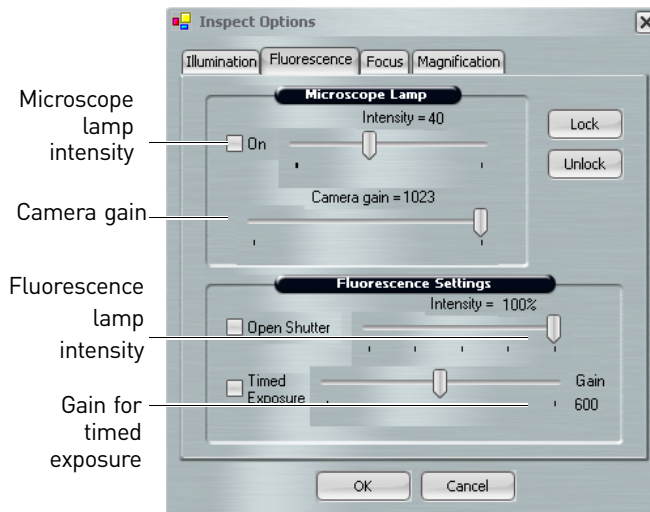

Figure 36 Fluorescence tab
3. Make sure that the Microscope Lamp Intensity is turned off (unchecked) (see Figure 36).
- a. Set the Fluorescence Lamp Intensity to 100% (see Figure 36).
- b. Set the Camera Gain to the maximum setting (see Figure 36).
- e. If needed, check the Microscope Lamp on (see Figure 36) and adjust the intensity to allow minimal brightfield light.
- a. Adjust the Camera Gain (see Figure 36) to the lowest possible value to still allow sufficient signal. (Higher values increase image pixilation.)
- b. Set the Brightness (exposure time) (see Figure 36) to 1s or less. (Higher values result in significant delay in live image updates.)
- c. If the live image displays with very bright fluorescence intensity, lower the Fluorescence lamp intensity (see Figure 36).
1. Set Camera Gain (see Figure 36 on page 48) for optimal fluorescence image.
2. Adjust the Microscope Lamp Intensity (see Figure 36 on page 48).
- Use the Gain setting next to Timed Exposure (see Figure 36 on page 48) only with the Timed Exposure feature. Adjusting this setting outside of Timed Exposure will not result in a change.